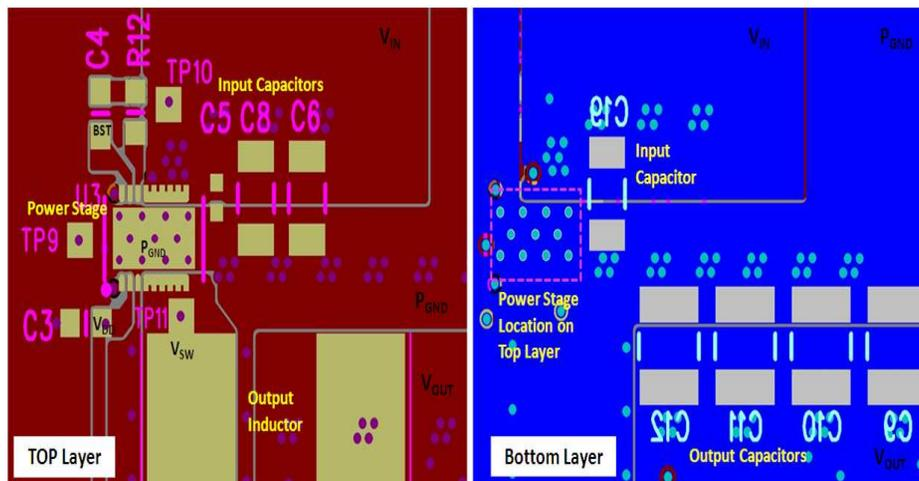

Figure 16. Recommended PCB Layout (Top Down View)
- The placement of the input capacitors relative to  $V_{IN}$  and  $P_{GND}$  pins of CSD95375Q4M device should have the highest priority during the component placement routine. It is critical to minimize these node lengths. As such, ceramic input capacitors need to be placed as close as possible to the  $V_{IN}$  and  $P_{GND}$  pins (see Figure 16). The example in Figure 16 uses 1  $\times$  1 nF 0402 25 V and 3  $\times$  10  $\mu$ F 1206 25 V ceramic capacitors (TDK Part # C3216X5R1C106KT or equivalent). Notice there are ceramic capacitors on both sides of the board with an appropriate amount of vias interconnecting both layers. In terms of priority of placement next to the Power Stage C5, C8 and C6, C19 should follow in order.
- Use the smallest drill size allowed in your design. The example in Figure 16 uses vias with a 10 mil drill hole and a 16 mil capture pad.